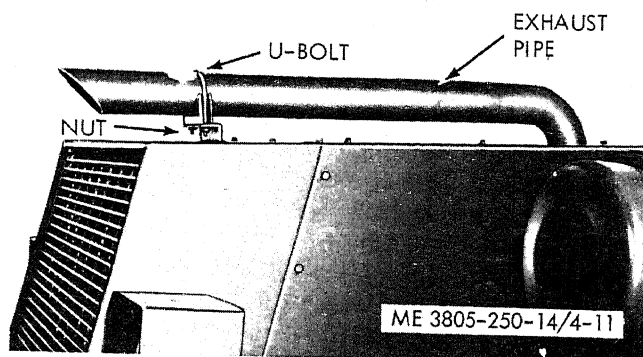

Figure 4-11. Exhaust pipe, removal and installation.
(1) Inspect the exhaust pipe for an accumulation of dirt or any foreign matter in the passage.
(2) Check for signs of corrosion and for holes in the pipe.
(3) Ensure that the pipe is held securely in position.
c. **Removal.** (fig. 4-11).
(1) Remove two nuts and lockwashers from the threaded ends of the U-bolt.
(2) Loosen the clamp securing the exhaust pipe to the exhaust elbow.
(3) Lift the exhaust pipe up from the loader, carefully working the exhaust elbow end through the hole on top the hood.